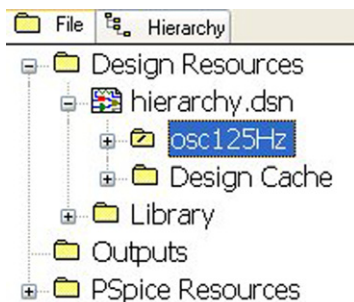

FIGURE 20.19
1. Create a new project called Hierarchy. In the Project Manager, rename SCHEMATIC1 to osc125Hz (Figure 20.19).